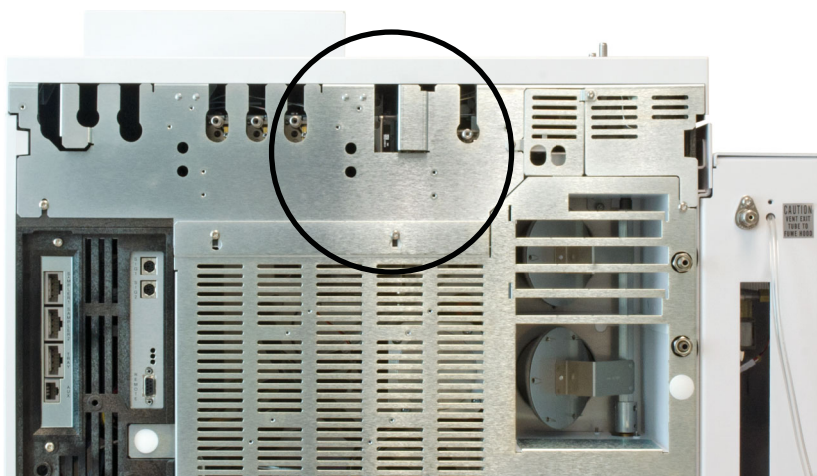
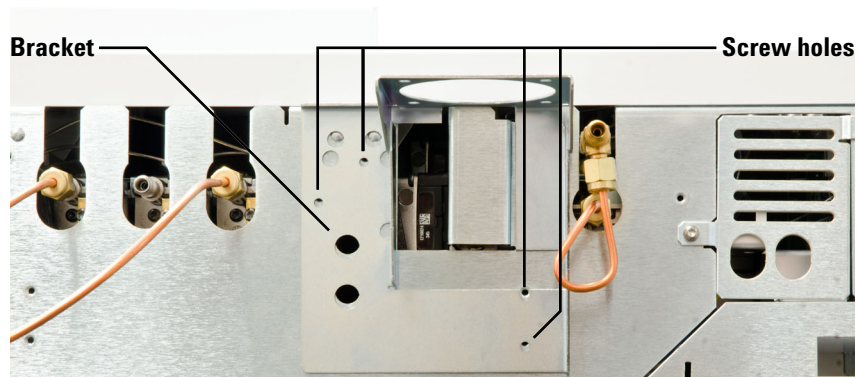

Figure 11. Location on back of 7890 GC to install bracket
Figure 12. Screw hole locations on back of 7890 GC and bracket
- 1 Place the bracket (5003-1356) against the back of the 7890 GC in the location shown in **Figure 11**, then align the screw holes as shown in **Figure 12**.